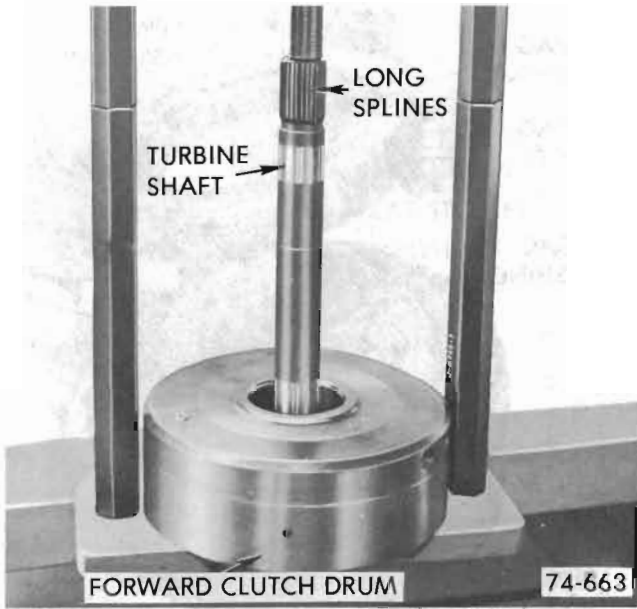

Figure 76-190
7. If removed, install turbine shaft into forward clutch drum. See Figure 76-190.